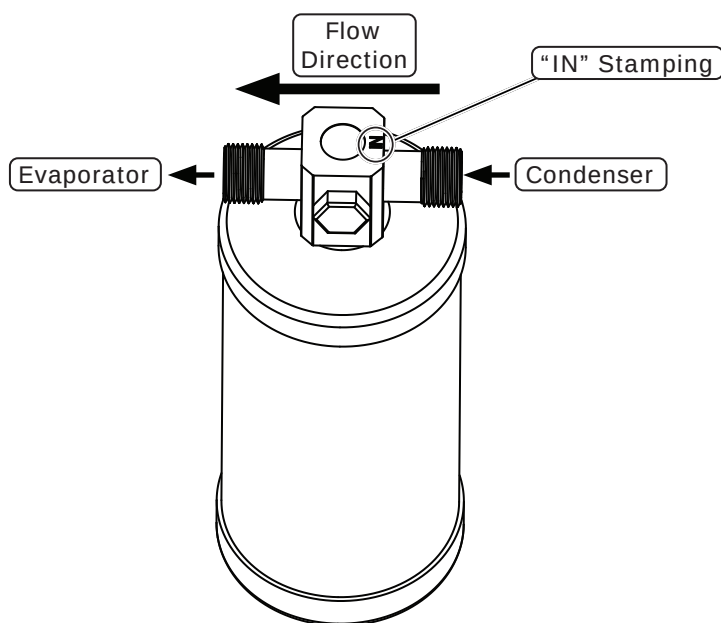

Figure 1
7. With a properly lubricated O-ring (See Lubricating O-rings, Page 6), connect the #6 condenser line to the drier and install the male binary switch as shown in Photo 12 and 13, below. **NOTE: Ensure proper flow direction on drier (See Figure 1, below).**